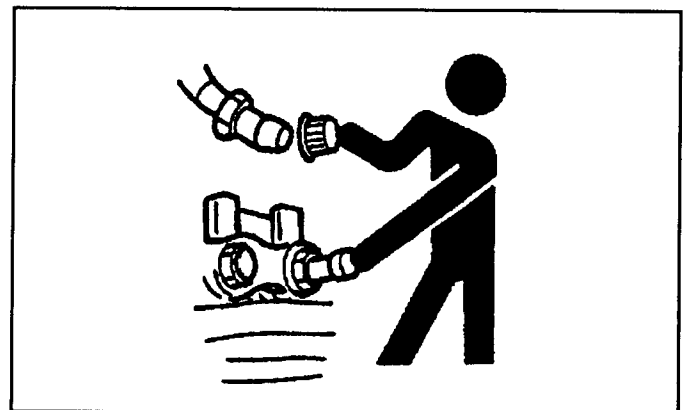

FIGURE 4.8
G. Prevent Contamination– FIGURE 4.8